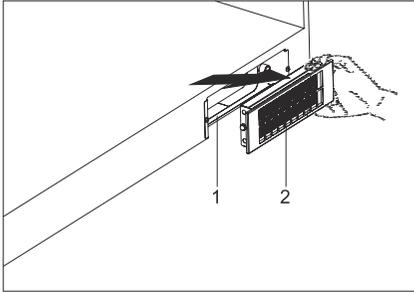

Fig. 7
1. ➔ active carbon filter (Fig. 7/2) by pulling it towards the direction of the arrow(Fig. 7).